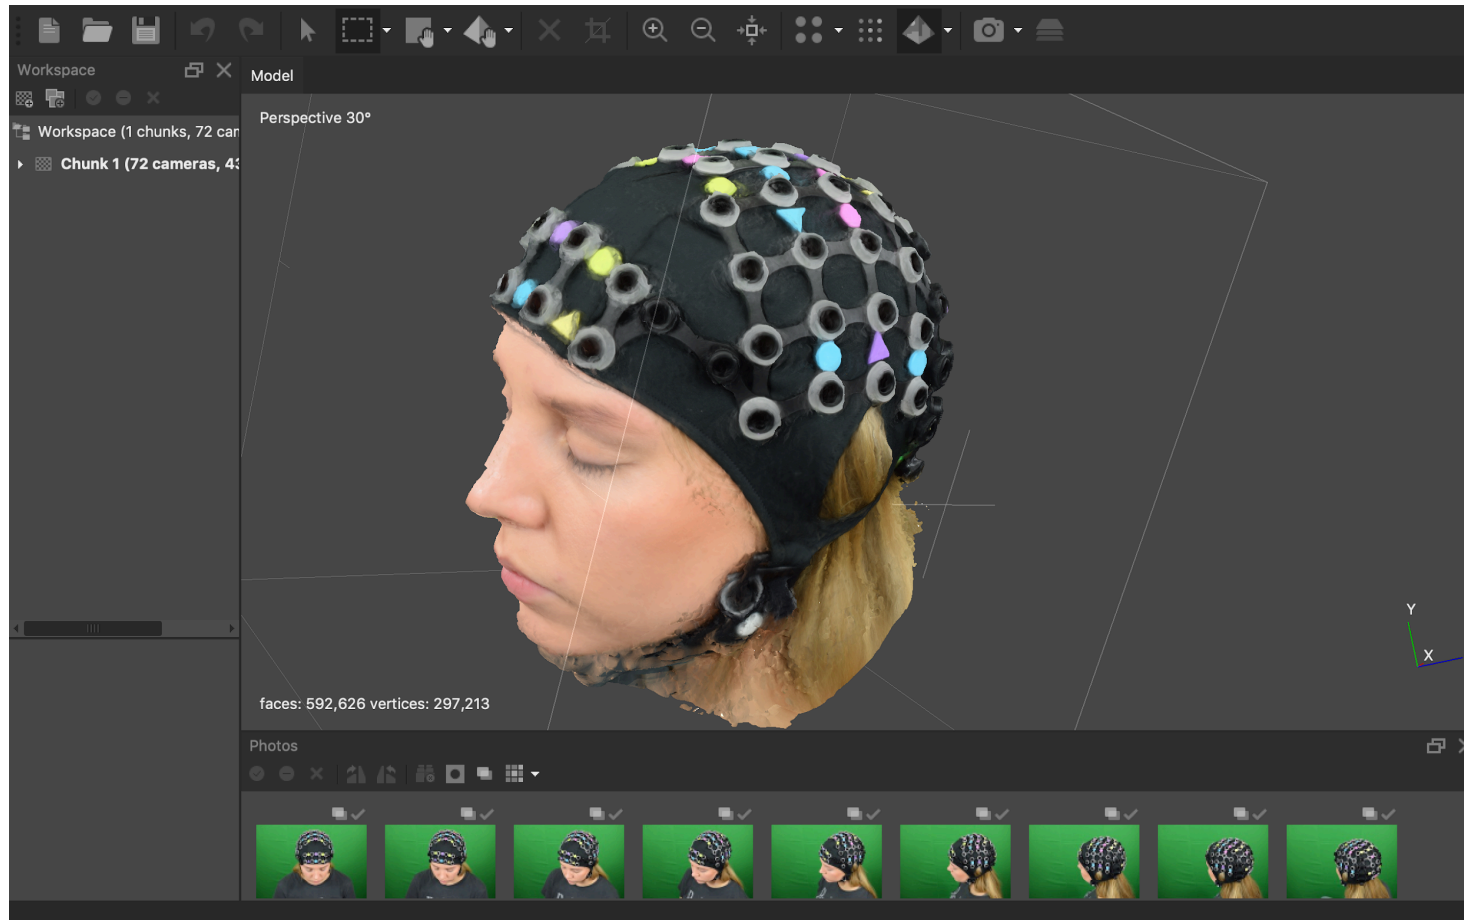

Figure 25. Final 3D model in Metashape, front view
12. The results might look similar to the 3D model in Figures 25, 26 and 27 if everything worked correctly. Some models might be a bit more blurry than others. In that case the quality of the pictures might have been the reason. This is not a problem if you can still see every optode holder location.